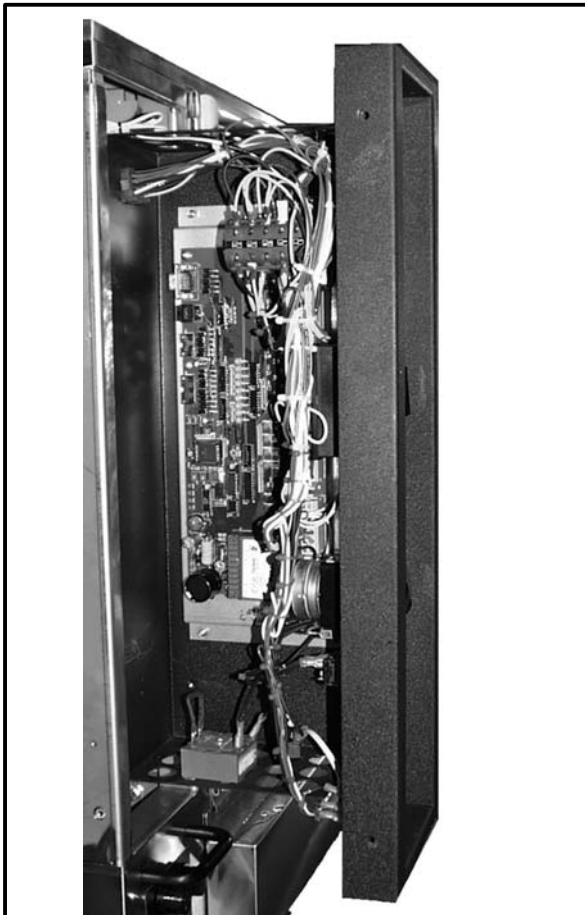

Figure 11
2. Remove the two screws located on the side panel. Slide the control module forward. See Figure 11.